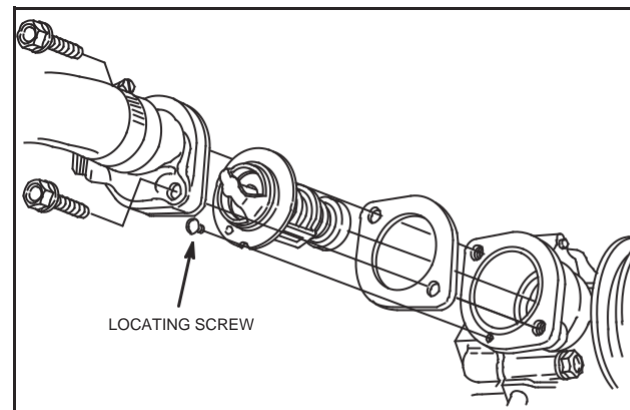

Fig. 5 – Installing Thermostat
1. Insert thermostat in housing and install locating screw, Fig. 5.